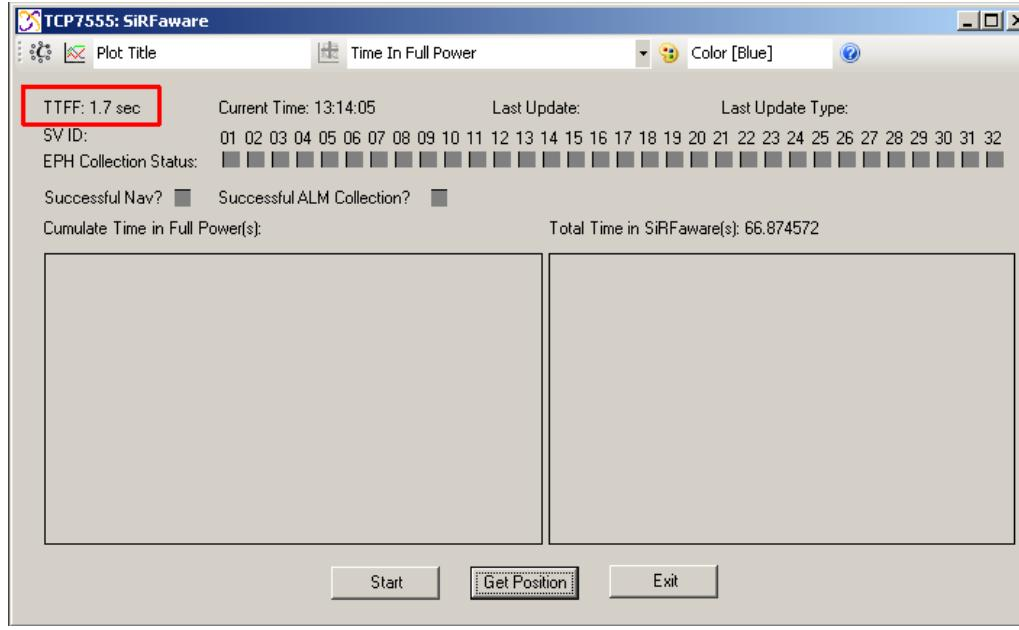

Figure 8.7: TTFF Display
- Click the **Get Position** button to take the Rx out of SiRFaware mode and clear the fields in the window. The TTFF in seconds is also displayed, see Figure 8.7.